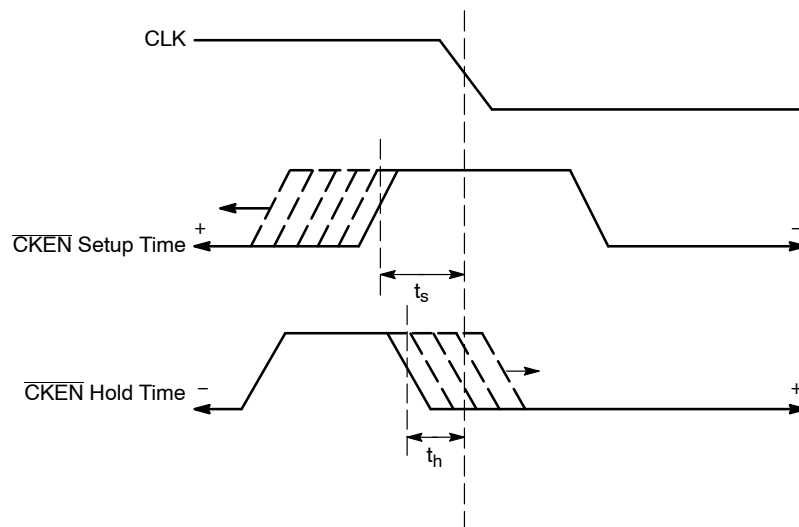

Figure 6. CKEN Setup and Hold Time
Upon power-up, the internal flip-flops will attain a random state. To synchronize multiple flip-flops in the device, the Reset (pin 1) must be asserted. The reset pin will disable the internal clock signal irrespective of the CKEN state (CKEN disables the internal clock circuitry). The device will grab the first stream of data after the falling edge of RESET^①, followed by the falling edge of CLK^②, on second rising edge of CLK^③ in either CKSEL modes. (See Figure 6)